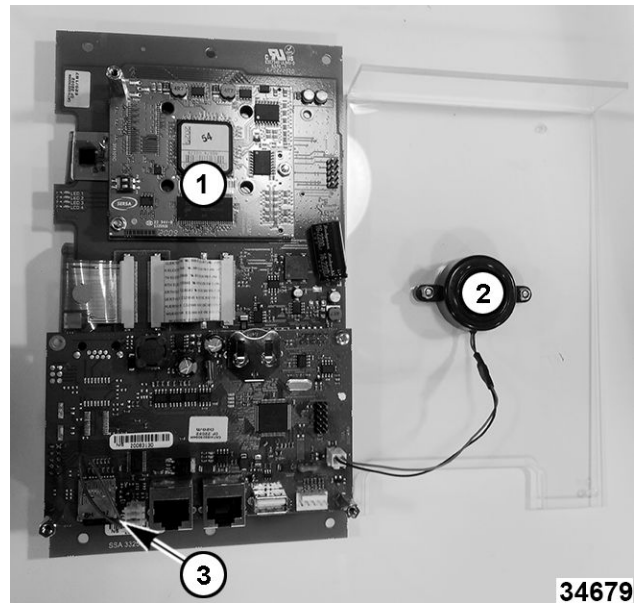

Fig. 10
6. Disconnect board (1, Fig. 10) buzzer (2, Fig. 10) wiring connector.
7. Remove jumper (3, Fig. 10) and install on new board if replacing board.